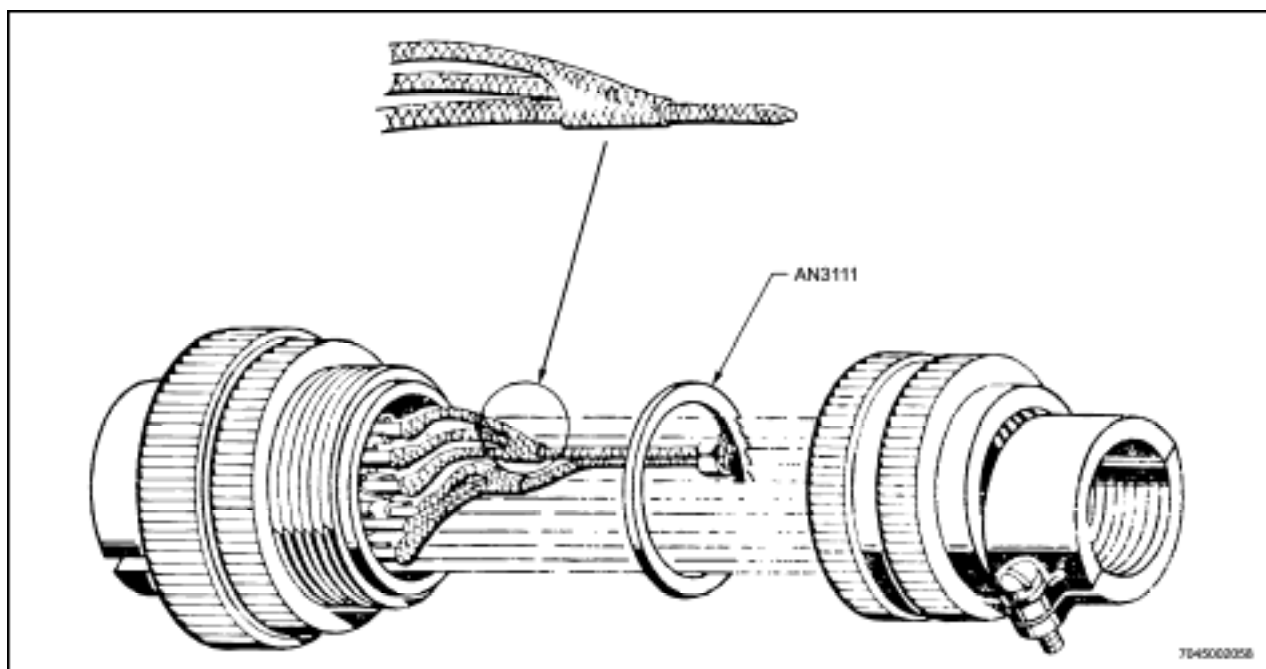

Figure 10-31 Installing AN3111 Bonding Ring
- c. Make a hole in one shield and expand it to hold up to three other shields as shown in Figure 10-31. Tighten the expanded shield around the others and seat solder together. Repeat as necessary for number of shields to be grounded.